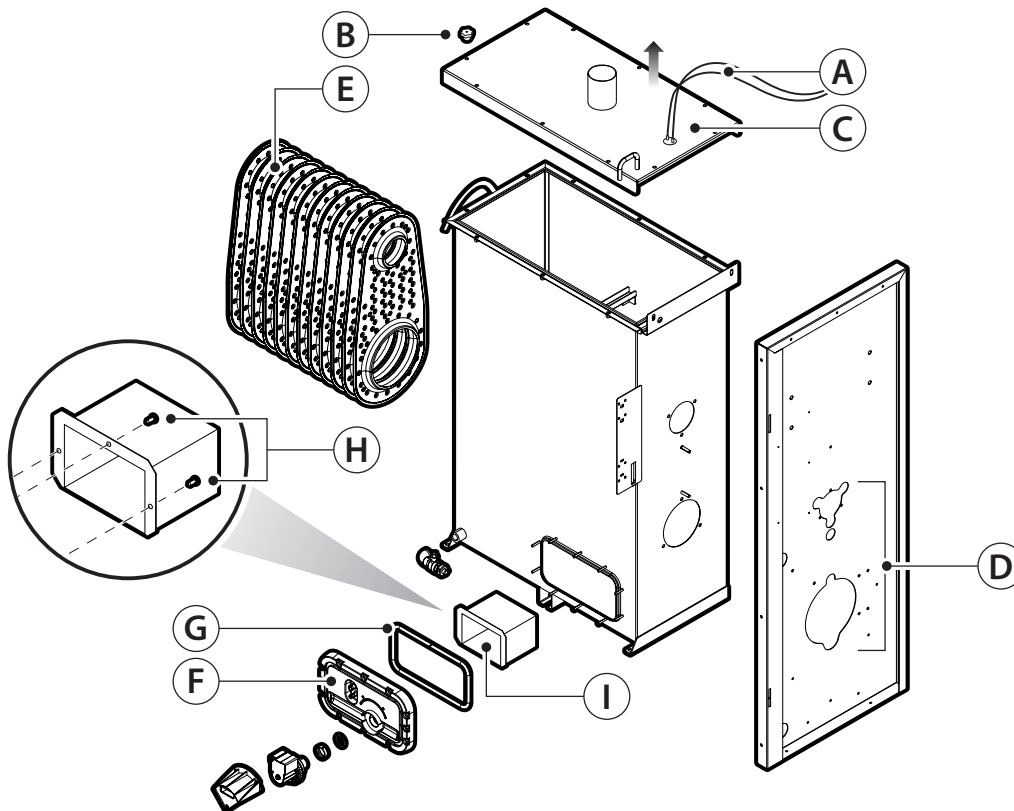

Fig. 17.d
- disconnect the cables from the foam detection electrode (A - Fig. 17.d);